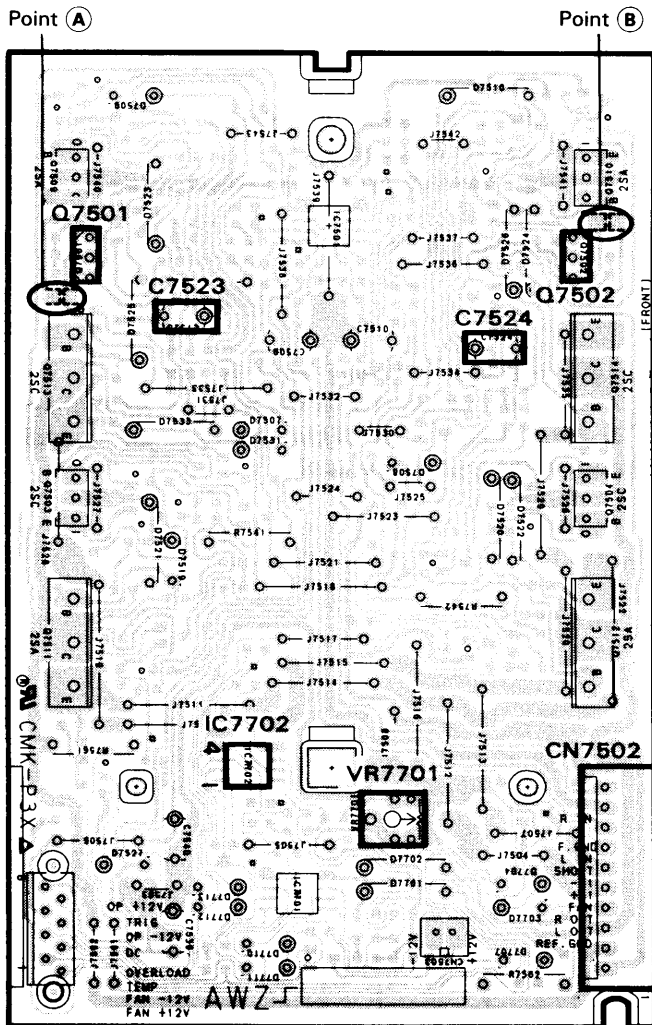

Fig. 2-3 FRONT ASSY FOR 100W
1. Connect a voltmeter between TEMP and TP (or between IC7702 terminals No.3 and 2). (Refer to Figs. 2-3 and 2-6.)